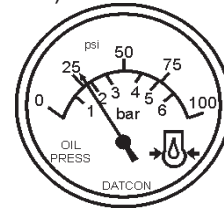

Figure 48. Oil Pressure Gauge
14. The engine oil pressure gauge (Figure 48) will indicate the oil pressure (kg/cm2) of the engine. Under normal operating conditions the oil pressure is between 28 ~71 psi (193 ~490 kPa).